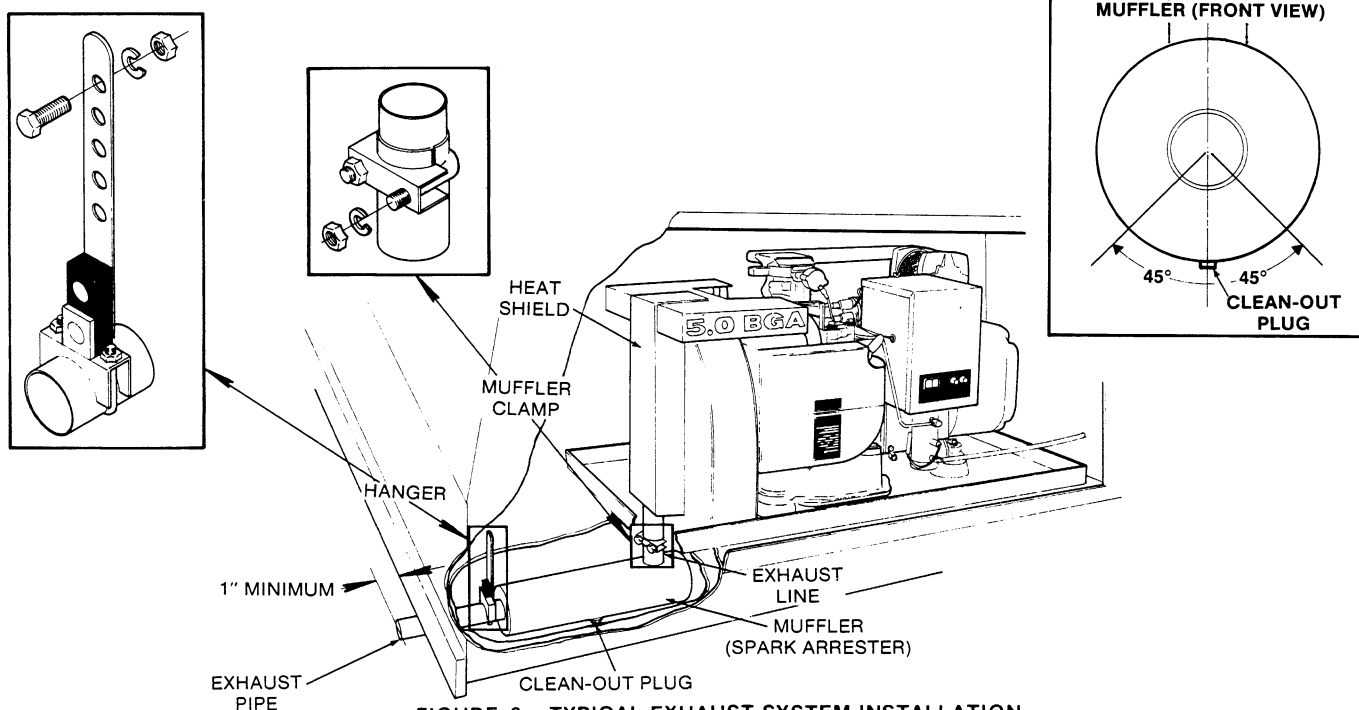

FIGURE 6. TYPICAL EXHAUST SYSTEM INSTALLATION
1. Where the exhaust system passes through the base or floor, leave adequate clearance as protection against exhaust pipe damage from vibration (Figure 6). The metal around the hole should be turned up or some type of collar used to prevent gas or oil from draining onto hot exhaust parts.